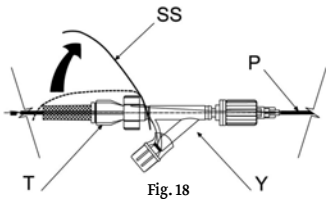

Fig. 18
- Cut or remove the security seal (SS). Fig. 18.